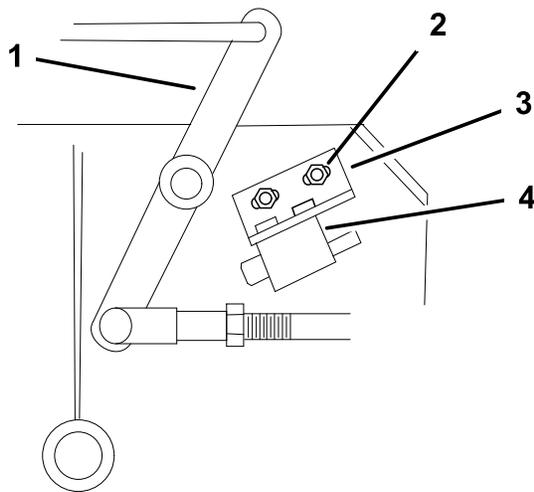

Figure 49
4. If needed, adjust the blade-safety switch by loosening the bolts holding the switch bracket (Figure 49).
Note: Make sure that the bellcrank **does not** touch the switch body; otherwise, damage to the switch could occur (Figure 49).